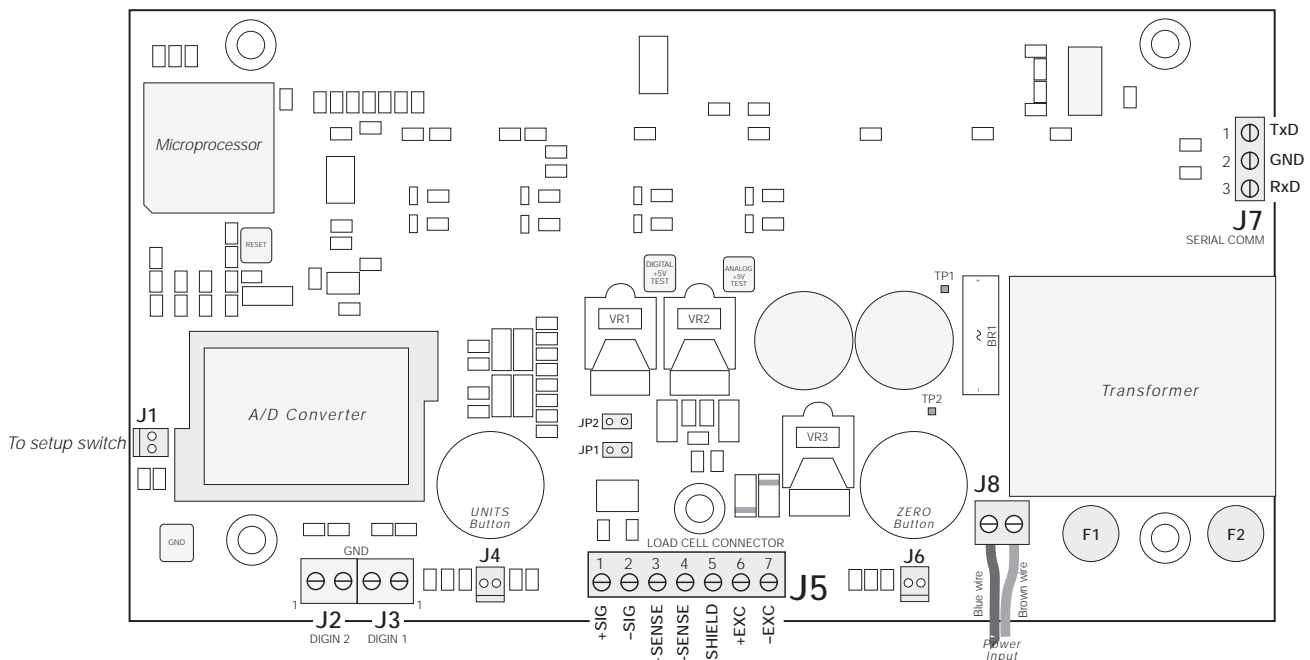

Figure 2-2. IQ plus 210 CPU and Power Supply Board
Wire the load cell cable from the load cell or junction box to connector J5 as shown in Table 2-1. If using 6-wire load cell cable (with sense wires), remove jumpers JP1 and JP2 (see Figure 2-2). For 4-wire installation, leave jumpers JP1 and JP2 on.
2. Remove connections to J5 (load cell cable), J7 (serial communications), J2 and J3 (digital inputs), J4 and J6 (piezo button inputs), and J1 (setup switch). Remove blue and brown power input wires at J8. See Figure 2-2 on page 4 for connector locations.